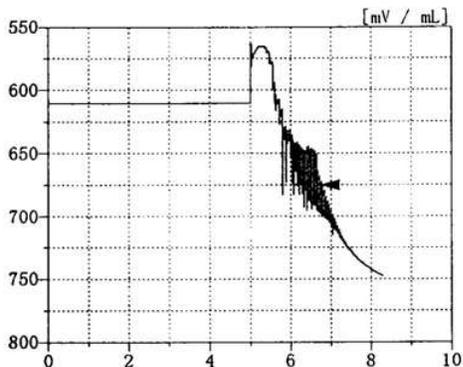

Figure 1: Bromine value titration curve for nonene by potentiometric titration at 5°C.
- ① Potentiometric titration method (also called zero-current potentiometric titration method since polarization current is not applied)
- ② Constant-current potentiometric titration method (polarization current is applied and change in potential difference is measured)
- ③ Constant-voltage amperometric titration method (polarization voltage is applied and change in current is measured)
In this measurement, ① Potentiometric titration method and ② Constant-current potentiometric titration were used. As the result of the measurement, ② Constant-current potentiometric titration method was suited for measurement of this sample. Though a clear titration curve was relatively observed in measurement by ① Potentiometric titration method under room temperature, there was a tendency for the titration end point to be unclear when it was measured at 5°C (Figure 1). In general, it is safe to measure bromine value using ② Constant-current potentiometric titration method based on our past experience.
(2) The relationship between bromine addition reaction speed and sample